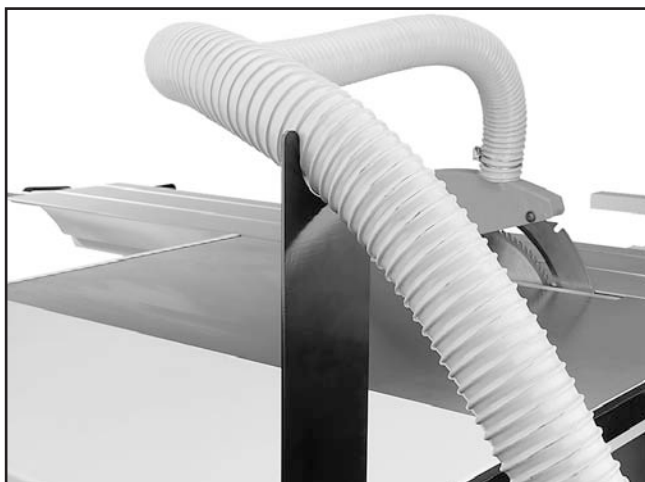

Figure 50. Dust hose support in use.
48. Run the 2½" hose over the hose support, as shown in **Figure 50**.